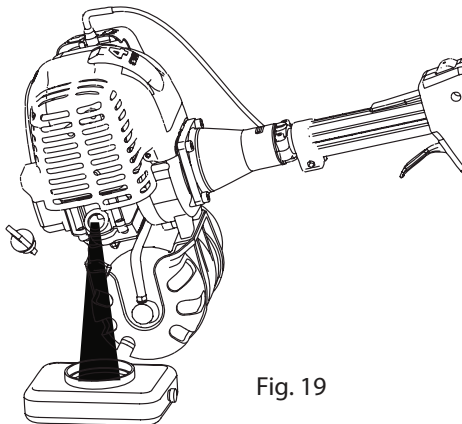

Fig. 19
3. Pour the oil out of the oil fill hole and into a container by tipping the unit to its side (Fig. 19). Allow ample time for complete drainage.